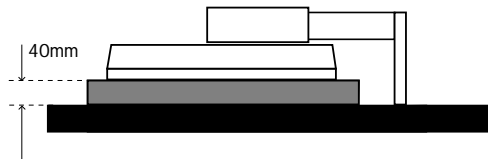

Figure S.1
3. Place monitor face down on a non-abrasive surface (Place the screen on a 40mm platform so that the stand is parallel with the surface.) (Figure S.1).